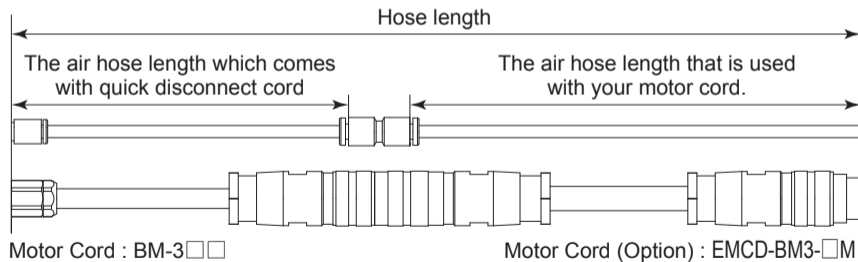

Fig. 33
(1) One Motor Spindle is connected to the Control Unit.	Air Pressure (MPa)	0.2		0.25		0.3
(2) Two Motor Spindles are connected to the Control Unit.		0.4		0.5
*Note 1 : "Hose Length" indicates total hose length consisting of the Quick Disconnect Hose and the Motor Cord Hose. See Fig.33 to see how to calculate "Hose Length".